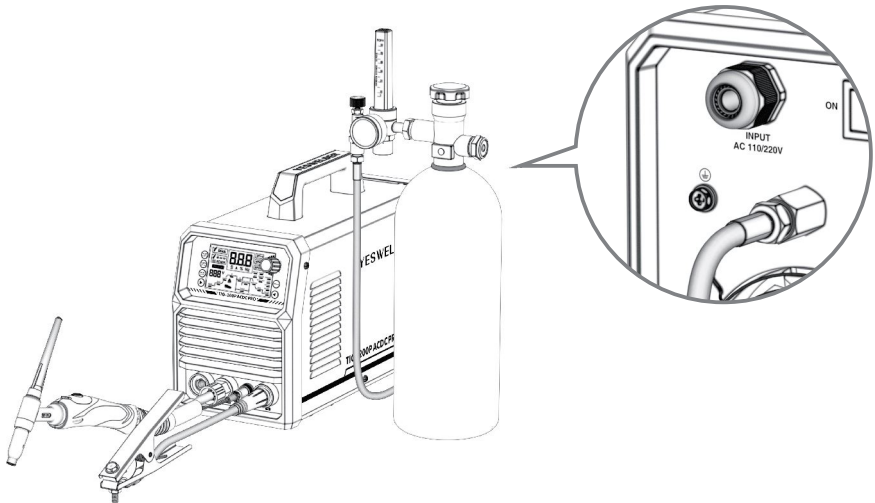

Fig. 9-1
- Connect the TIG torch correctly according to Fig. 9-1. Connect the connector of the TIG torch to the "TIG" connector on the machine, and tighten it.